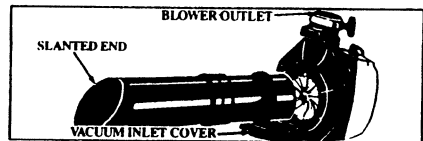

Figure 10
7. Hold open the Vacuum Inlet Cover and slide the straight end of the upper Vacuum Tube into the opening until it bottoms out (about 1 inch). Figure 10.
- NOTE:** Observe that one end of the Lower Vacuum Tube is cut at an angle and the other end is cut straight. Make sure the slanted end of the Suction tube is aligned with the Blower Outlet as shown in Figure 10.